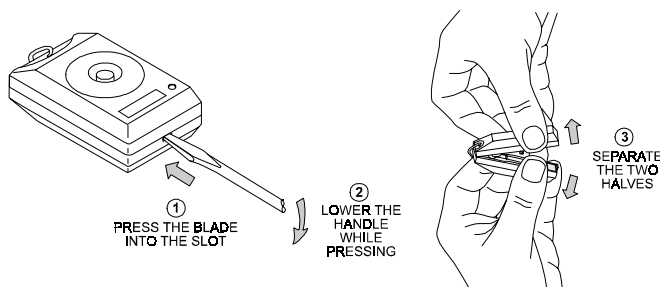

Figure 2. Opening the Case
- (1) Insert an 1/8 inch screwdriver blade in the slot at the bottom of the case, and follow the steps shown in Figure 2.